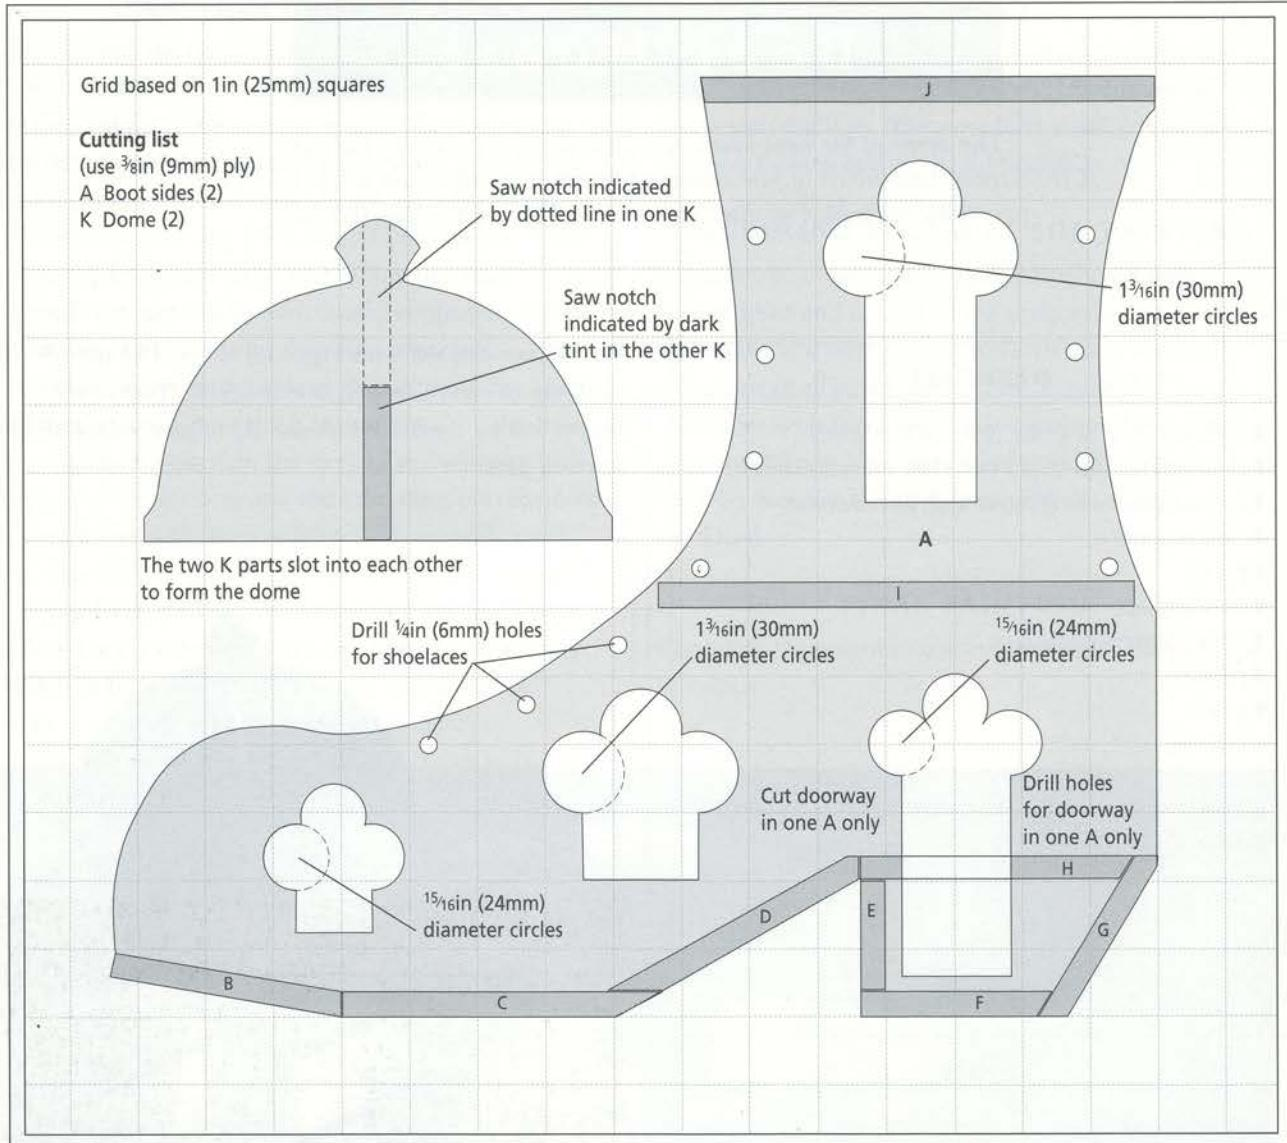
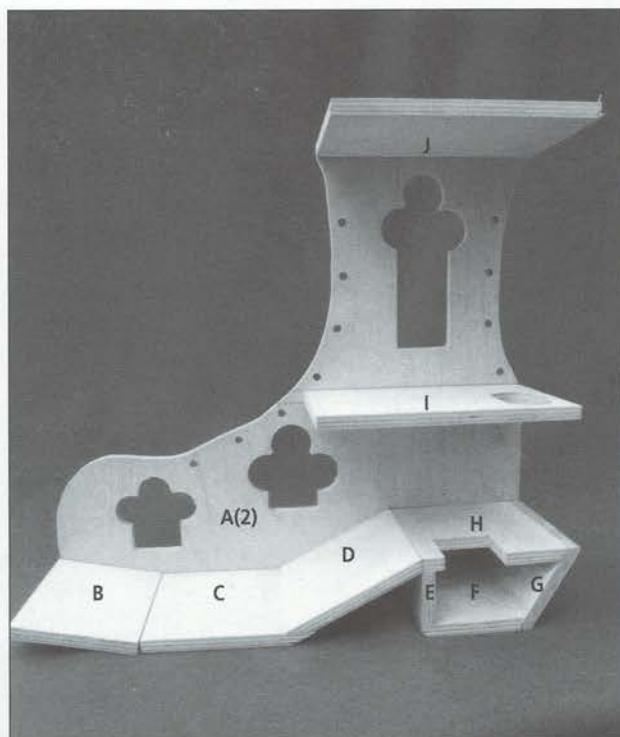
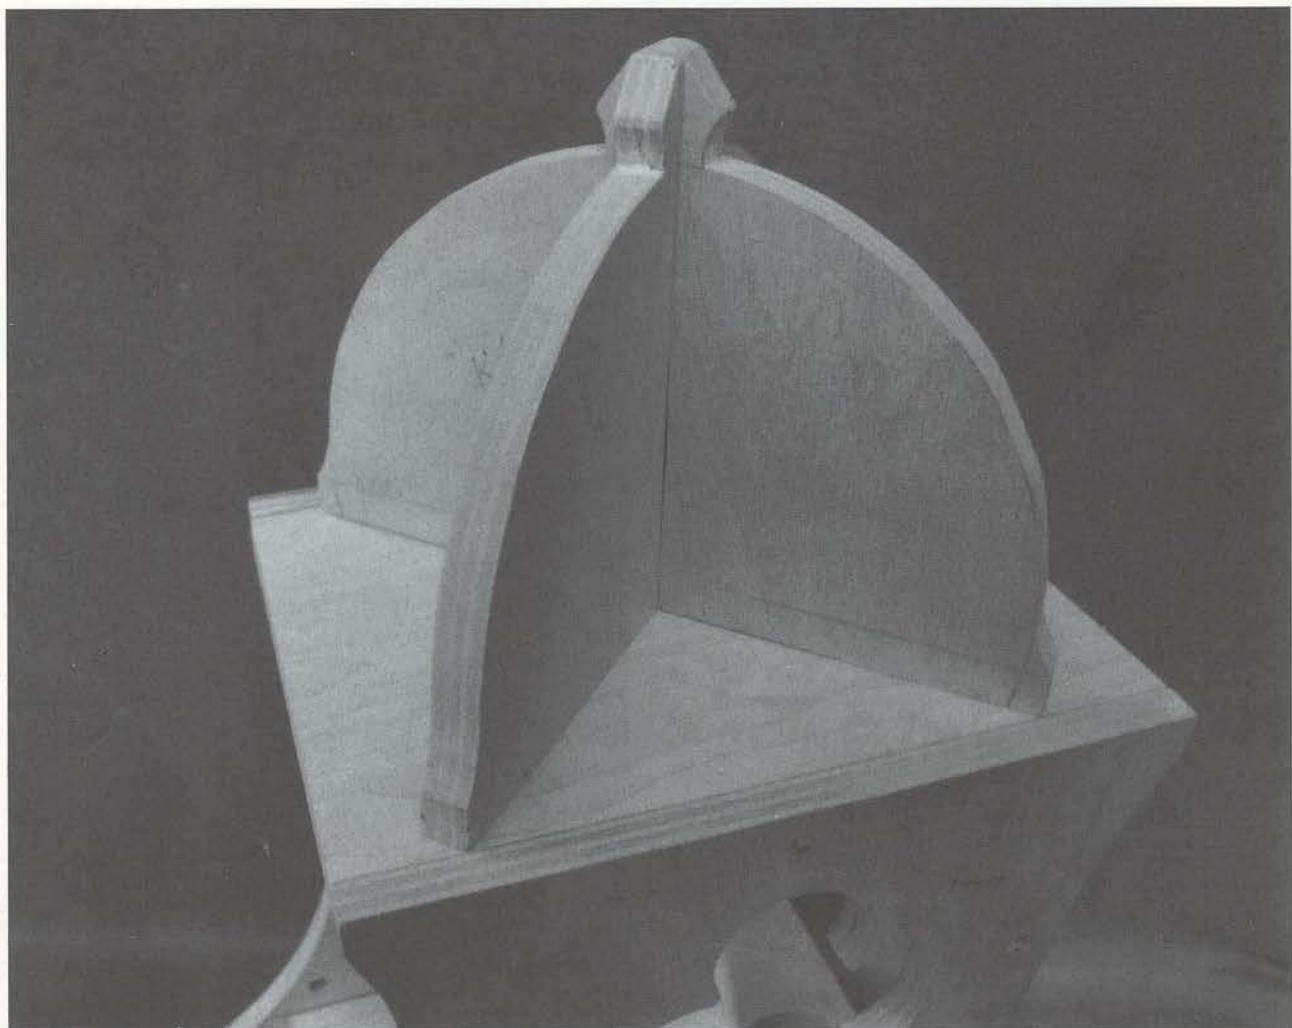
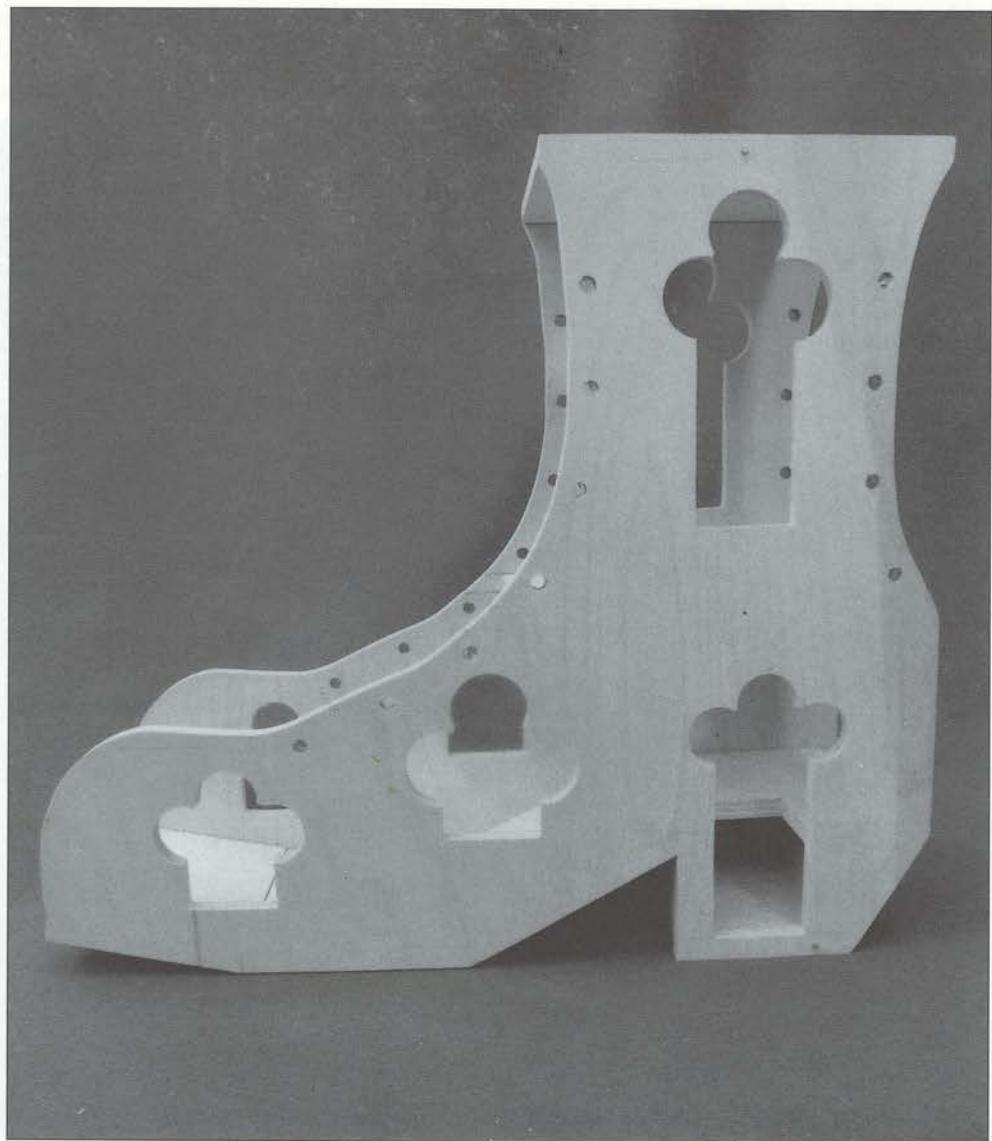

Fig 11.1 Use a grid to transfer shapes A and K to ply. Locations of parts B–I are shown.
Fig 11.4 The positions of the parts that make up the sole and heel, and parts I and J.
Fig 11.5 The two K parts slot together to form the dome.
Fig 11.7 But for the wooden 'shoelaces' and the dome, the boot house is completely assembled.
Familiarize yourself with Figs 11.1–11.3. The toy is made up of eleven shapes, labelled A–K. Two of the shapes will be duplicated (A and K) to give a total of thirteen parts.
Make a grid with 1in (25mm) squares. Draw shapes A and K on the grid following the plan at Fig 11.1. Trace the shapes onto the plywood. Try cutting out parts A and K in duplicate; there will be much drilling and sawing, especially in parts A, and cutting in duplicate will save a lot of time and will ensure accuracy. If you will be sawing out the shapes in duplicate you will only need to trace each shape once. If you are going to saw out each shape separately, trace two each of A and K onto the ply.
A note about parts K: Fig 11.1 shows slots to be cut in the two parts. Don't bother marking the positions of the slots for now. This will be taken up in a later step.
Separate the two K parts and remove the panel pins with a pair of pliers (the pin holes will be filled later). Refer to Fig 11.1. Notice that the two parts will fit together in an interlocking arrangement (*see also* Fig 11.5). Mark the position of the lower slot on one part K and the position of the upper slot on the other part K. Then saw out these slots with a coping or fret saw. A fine blade will be useful for turning the sharp corners of the slots.
Notice in Fig 11.1 the doorway in the boot near the heel in part A. This doorway is to be cut in one side of the boot (A) only. Do not drill the three holes for the doorway at this time. You should, however, drill the other nine $15/16$ in (24mm) and $13/16$ in (30mm) holes as well as the eleven $1/4$ in (6mm) holes in the stacked A parts.
Separate the two A parts and remove the panel pins with a pair of pliers. Take up one part A and drill the three holes for the doorway (*see* Fig 11.1).
Take up the part A in which you have just sown the three holes. With a coping or fret saw, and cut out the rest of the final club shape. You now have one part A with a doorway and one without. Fig 11.4 shows the A that has no doorway and Fig 11.7 shows the A with the doorway.
Referring to Fig 11.1, mark the position of part I on the inner face of the two parts A.
Parts B–H make up the sole and the heel of the boot (see Figs 11.1 and 11.4). The parts butt up against each other at angles. These angles are achieved by filing.
Glue and pin the heel assembly to one of the A parts in the position shown in Fig 11.1. Then glue and pin parts B, C and D to the same side A as well. Again refer to Fig 11.1 for the positions of the parts and to Fig 11.4 for an example of the pinned and glued parts. Allow the assembly to dry. Then fill any slight gaps in the joints with wood filler. When the filler has dried, sand it level.
Glue and pin part I to the side of part A in the position you have marked from Fig 11.1. Glue and pin part J to the side of part A so that its upper surface is flush with the top edge of part A (see Fig 11.4). When the above assembly is completely dry glue and pin the remaining side A into position. The assembly is shown in Fig 11.7.
Take the two K parts that will form the dome. Apply a little glue to the edges of a notch and then slide the notches together to form the dome. The dome sits on top of the boot house as shown in Fig 11.5.